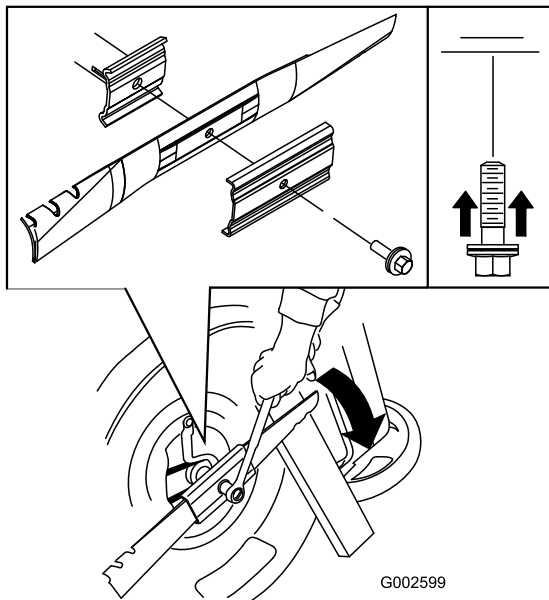

Figure 39
3. Use a block of wood to hold the blade steady (Figure 39).
4. Remove the blade, saving all mounting hardware (Figure 39).
5. Install the new blade and all mounting hardware (Figure 39).